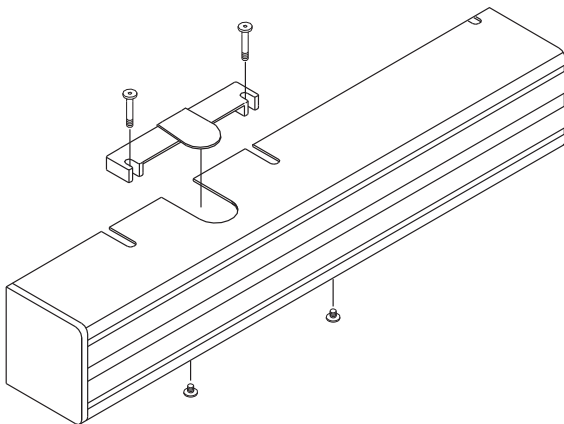

Figure 2
1. Slide the cover insert into the top cutout in the cover (see Figure 2).